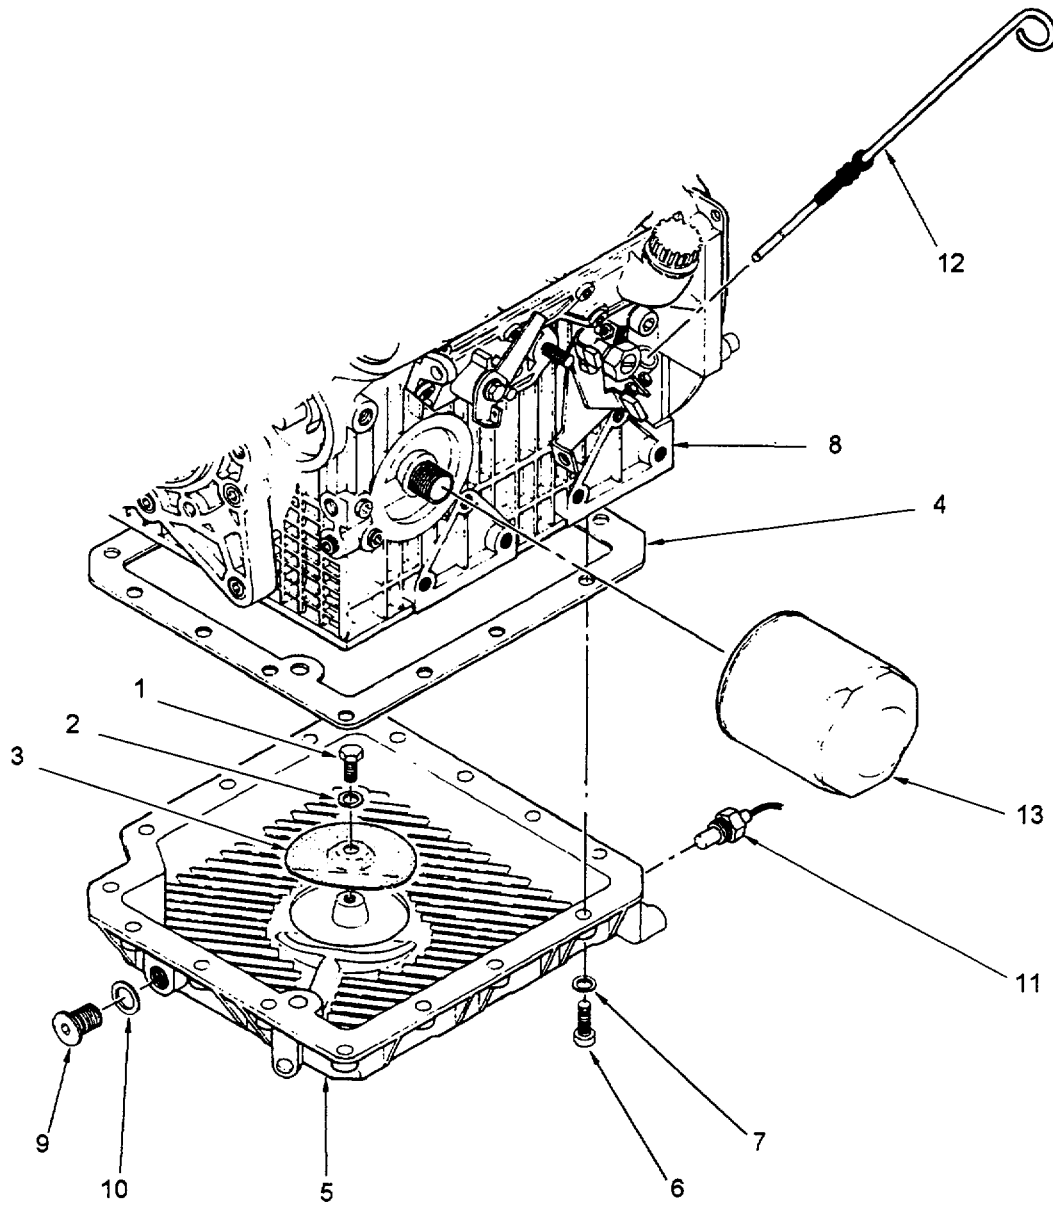

Figure 6-49. Oil Pan Installation
6.4.25 Install Oil Pan and Oil Filter. (Refer to figure 6-49.)